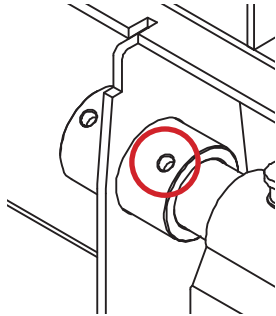
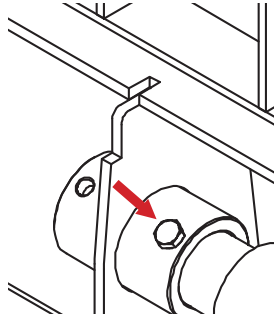
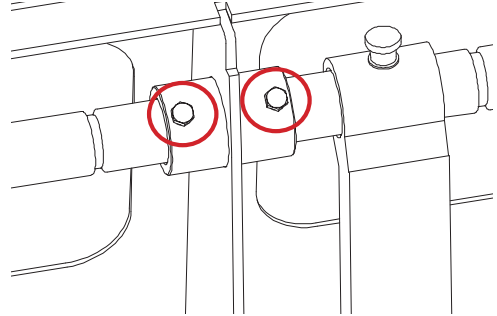
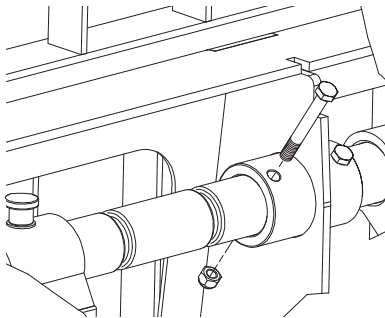

Figure 10
Figure 11
Figure 12
Figure 14
4. Align the tyne rod hole and the hole located on the frame (Figure 10).
5. Tighten the bolt (Figure 11). Ensure the bolt head is facing upwards (Figure 12). Align the tyne rod hole and the hole located on the frame (Figure 10).
6. Tighten the bolt (Figure 11). Ensure the bolt head is facing upwards (Figure 12).
8. Align the tyne rod hole with the hole located on the frame and tighten bolt (Figure 14). Ensure the bolt head is facing upwards (Figure 12).